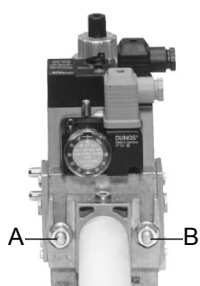

Fig. 7
3. tighten screws A, B, C and D (Fig. 6 - Fig. 7), according to the mounting positions (Fig. 9);